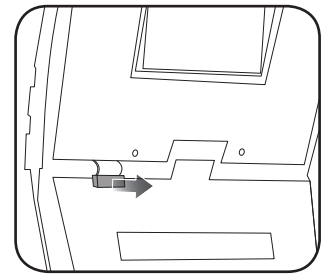

Fig. 2.4
4. Pull outward on the ribbon cable connector at the top of the climate control board. (Fig. 2.4)